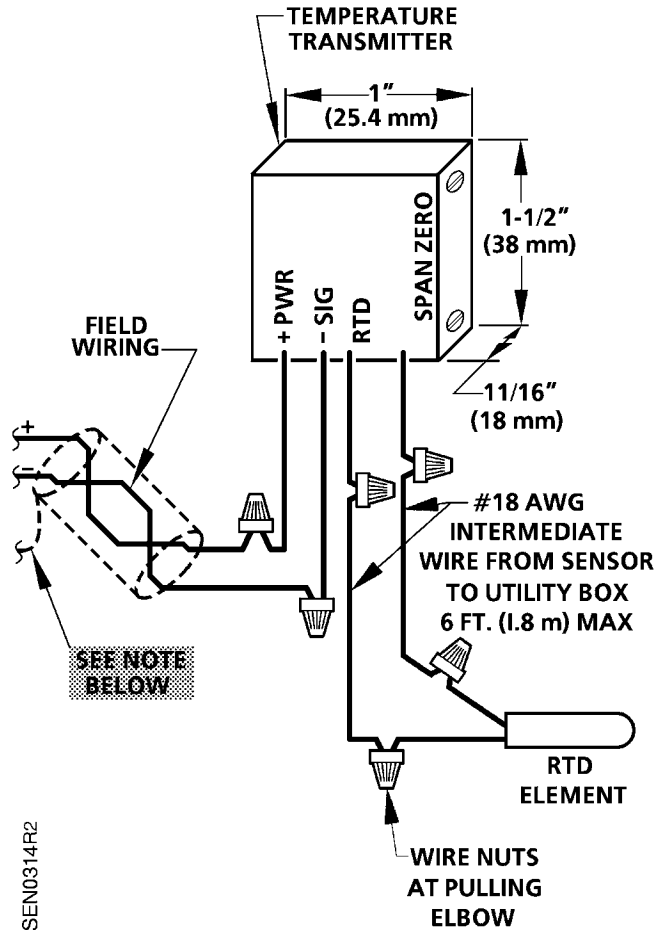

Figure 4. Analog Temperature Transmitter Wiring Connections for 4 to 20 mA Sensors (Option B).
- Connect the intermediate wiring from the sensing element to the appropriate transmitter wires. See Figure 4 and Table 1.
- Connect the field wiring from the controller to the transmitter. The positive (+) 26V supply lead goes to the PWR wire of the transmitter and negative signal lead goes to the SIG wire. See Figure 4 and Table 1.
12. Connect the field wiring at the controller. See Figure 4 and Table 1.